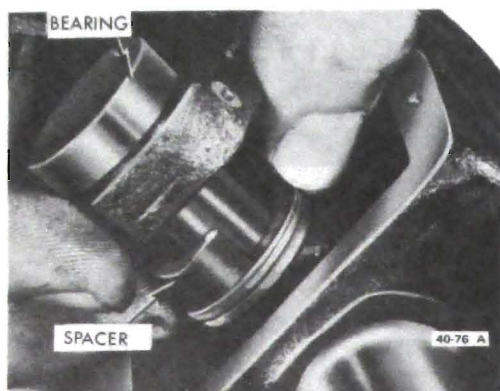

Figure 40-72 - Installing Spacer
partially through the link yoke. See Figure 40-72. Reposition propeller shaft in fixture as before and force the bearing completely out of the yoke with the added assistance of the Spacer.
6. Release the pump and install Spacer J-9522-5 over the spider journal in the space provided with the bearing forced partially through the link yoke. See Figure 40-72. Reposition propeller shaft in fixture as before and force the bearing completely out of the yoke with the added assistance of the Spacer.